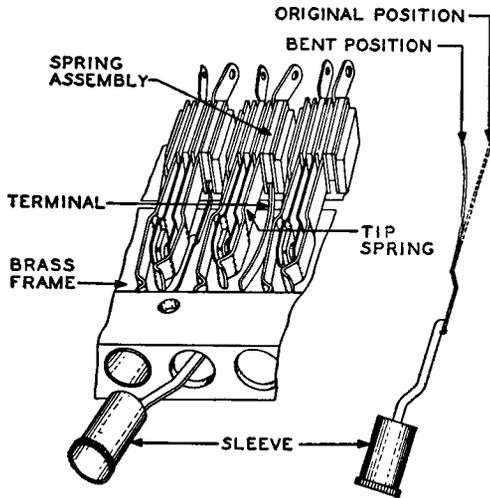

Fig. 7—Method of Inserting Sleeve Into the 141 Jack
3.12 Before inserting the new sleeve on the 141 and similar jacks, bend the sleeve terminal toward the center line of the sleeve so that the vertical section back of all bends forms an arc, and the extreme end of the terminal is offset about 1/4 inch from its natural position as shown in Fig. 7. On the 49-type jack, it will not be necessary to bend the sleeve terminal.
3.14 On the 141 and similar jacks, hold the sleeve so that the terminal is at the bottom for 1/2-inch thick mountings as shown in Fig. 7 and at the top for 11/16-inch thick mountings. Carefully locate the opening in the spring assembly at the rear of the mounting with the end of the terminal. This opening can best be located by holding the terminal against the side of the tip spring as shown in Fig. 7 and allowing it to follow this spring back and toward the brass frame of the mountings until the opening is reached. In the case of 1/2-inch thick mountings, the tip spring is to the right and the brass frame is at the bottom. In the case of 11/16-inch thick mountings, the tip spring is to the left and the brass frame is at the top. Observe from the rear of the switchboard whether or not the terminal is properly located.